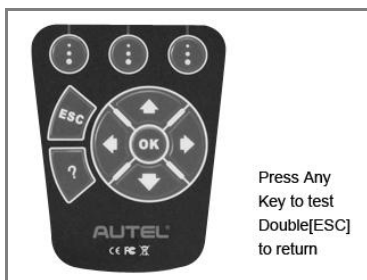

Figure 3.6
- 2) Press any key to start test. When you press a key, the edge around corresponding key on the screen should turn to red. Otherwise, the key is not functioning properly. (Figure 3.6)